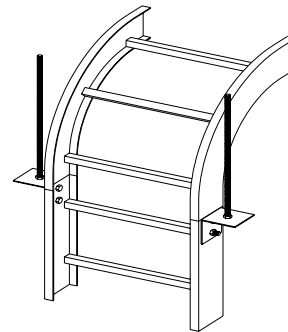

Figure 4.18
4.3.7 Vertical Support Plates (See Figure 4.18.)